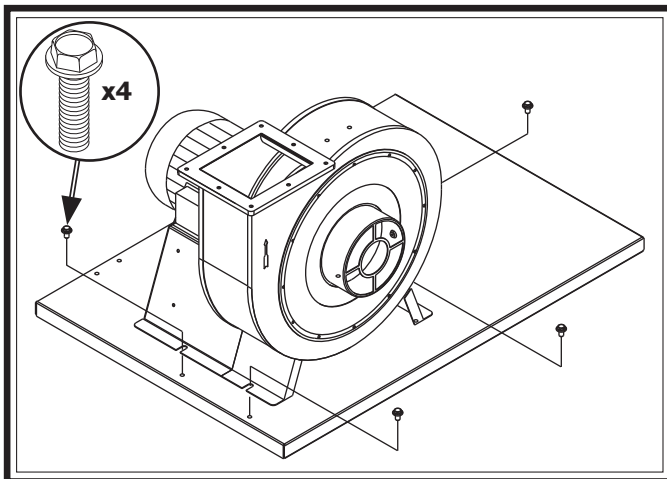

Figure 11. Motor/impeller assembly on base.
2. Align motor/impeller assembly with mounting holes on base. Attach assembly to base with (4) $\frac{5}{16}$ "-18 x $\frac{1}{2}$ " flange bolts (see **Figure 11**).